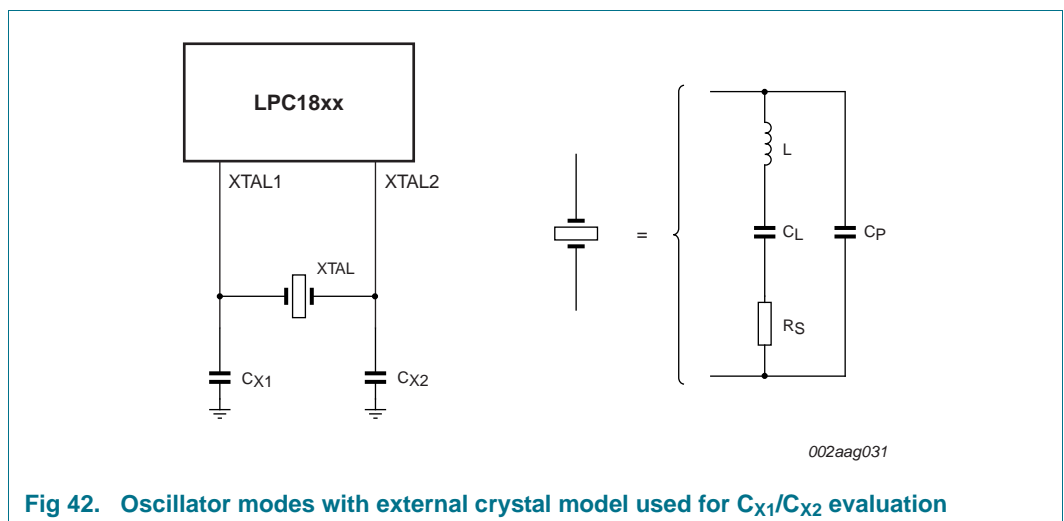

Fig 42. Oscillator modes with external crystal model used for C_{X1}/C_{X2} evaluation
- External components and models used in oscillation mode are shown in Figure 42, and in Table 37 and Table 38. Since the feedback resistance is integrated on chip, only a crystal and the capacitances C_{X1} and C_{X2} need to be connected externally in case of fundamental mode oscillation (L , CL and RS represent the fundamental frequency). Capacitance C_P in Figure 42 represents the parallel package capacitance and must not be larger than 7 pF. Parameters FC , CL , RS and CP are supplied by the crystal manufacturer.